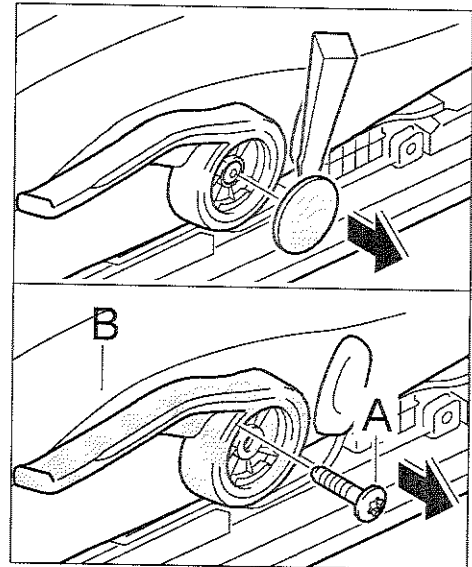

Figure 3
2.1.2 Unscrew fastening screw ⇒ *Figure 3 -A-* and remove lever ⇒ *Figure 3 -B-*.